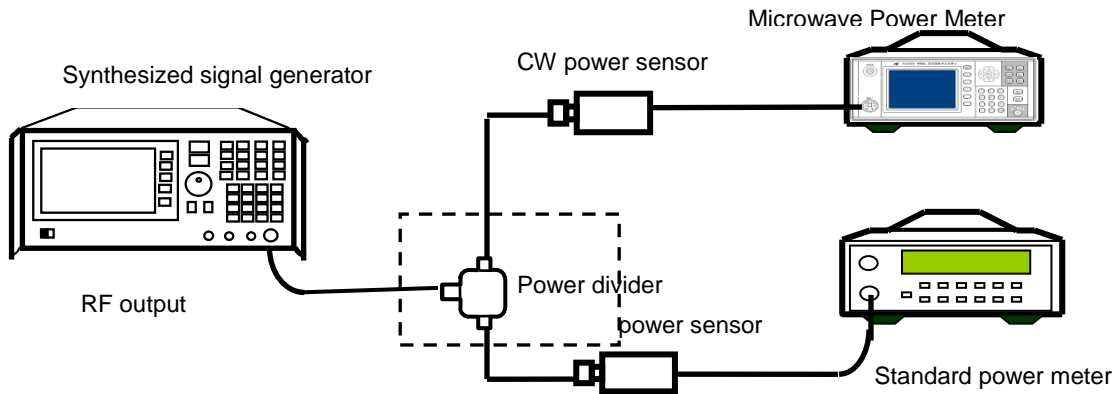

Fig. 8.5 Test of Power Range of CW Power Sensor
- 1) Connect the standard power meter to a power sensor with a power measurement range of  $-70 \sim +20$  dBm and the microwave power meter to be tested to a 71710X power sensor to be tested, warm up the device for at least 30 min, perform automatic calibration, connect the device as shown in Fig. 8.5.
As shown in Fig. 8.5.
- 1) Power on the instrument, warm it up for at least 30 min, calibrate the microwave power meter connected to a 71710A CW power sensor and the standard power meter respectively, and then connect the device as shown in Fig. 8.5.